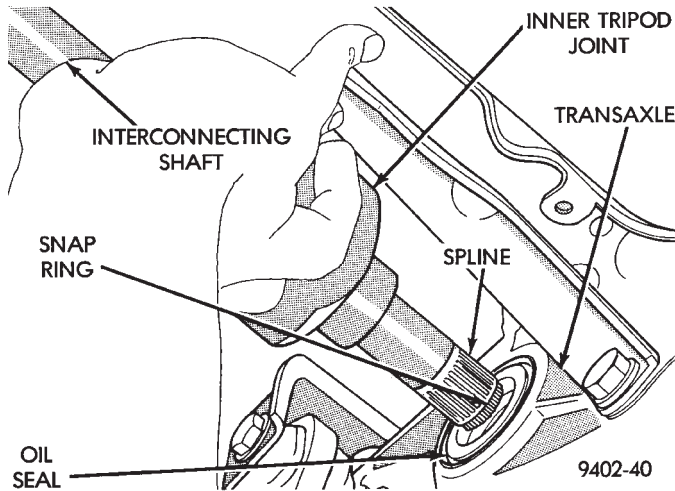
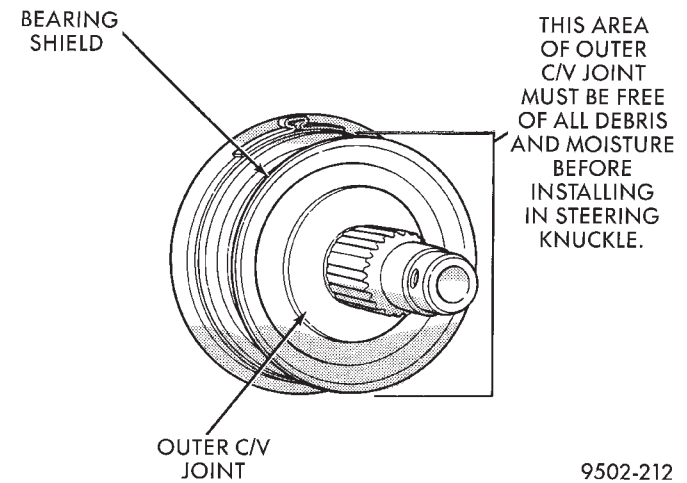

Fig. 13 Tripod Joint Removal from Transaxle
Fig. 14 Outer C/V Joint Inspection
(16) Hold inner tripod joint and interconnecting shaft of driveshaft assembly. Remove inner tripod joint from transaxle, by pulling it straight out of transaxle side gear and transaxle oil seal (Fig. 13). **When removing tripod joint, do not let spline or snap ring drag across sealing lip of the transaxle to tripod joint oil seal.**
(1) Thoroughly clean spline and oil seal sealing surface, on tripod joint. Lightly lubricate oil seal sealing surface on tripod joint with fresh clean transmission lubricant.
(2) Holding driveshaft assembly by tripod joint and interconnecting shaft, install tripod joint into transaxle side gear as far as possible by hand (Fig. 13).
(3) Grasp inner tripod joint and interconnecting shaft. Forcefully push the tripod joint into side gear of transaxle, until snap ring is engaged with transaxle side gear. **Test that snap ring is fully engaged with side gear by attempting to remove tripod joint from transaxle by hand. If snap ring is fully engaged with side gear, tripod joint will not be removable by hand.**
(4) Clean all debris and moisture out of steering knuckle, in the area where outer C/V joint will be installed into steering knuckle.
(5) Ensure that front of outer C/V joint which fits against the face of the hub and bearing is free of debris and moisture before installing outer C/V joint into hub and bearing assembly (Fig. 14).